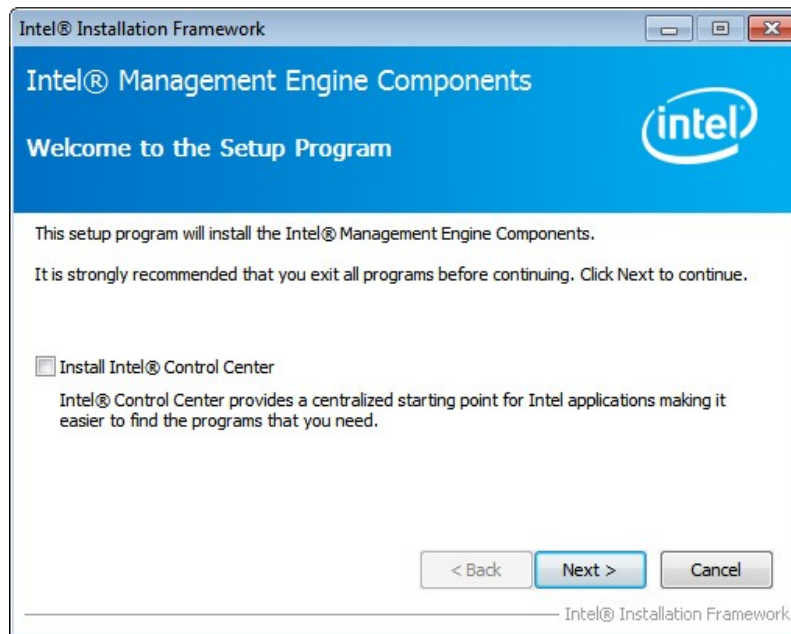

Figure 6-33: Intel® ME Driver Welcome Screen
Step 4: When the setup files are completely extracted the **Welcome Screen** in **Figure 6-33** appears.